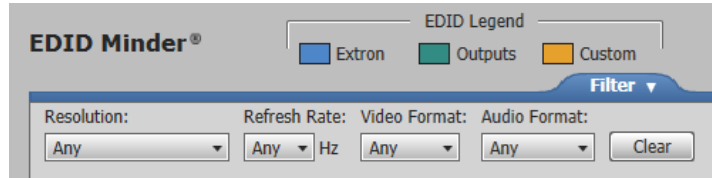

Figure 31. Filter Panel
- **Filter** — Displays various filters that can be enabled to easily locate specific EDID (see figure 31).